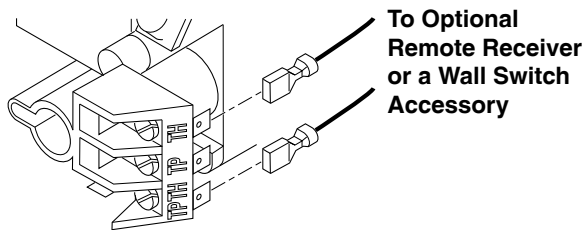

Figure 41 - Connecting Remote Receiver or Wall Switch to the Gas Control Valve
1. Connect one terminal of 15 ft. wire from the wall switch to the TPTH terminal on the valve. Connect remaining wire terminal to the TH terminal on the valve. Make sure that the wire terminals are in the positions on the unit as pictured in **Figure 41**. If wires are not connected as shown the switch will not work.
4. Connect wires from receiver to TH and TPTH to control valve (see **Figure 41**).